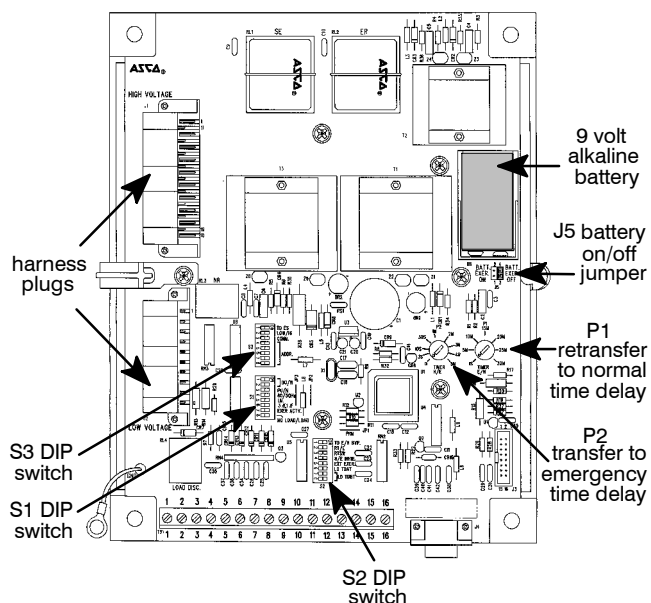
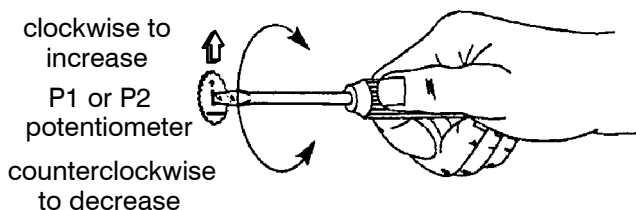
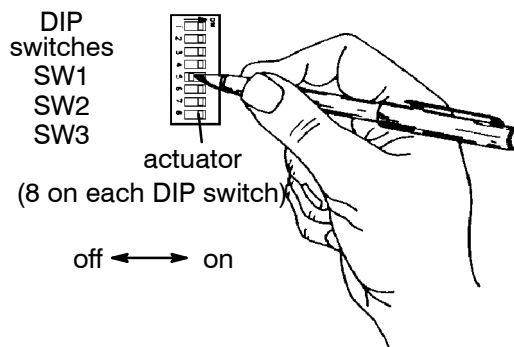

Figure 4-2. Location of potentiometers.
Figure 4-3. Changing time delay potentiometers.
Figure 4-4. Setting DIP switch actuators.
4. Locate the appropriate adjustment potentiometer or DIP switch for the setting that you want to change. Refer to Table 4-1 and Table 4-2 on page 4-1 and Figure 4-2, Figure 4-3, Figure 4-4 on page 4-2.
5. Use a small screwdriver to turn the potentiometer clockwise to increase the time delay or counterclockwise to decrease it. See Figure 4-3.
6. Use a ball-point pen (or similar pointed tool) to slide the switch actuators left or right so they match the illustration next to the setting (left = off, right = on). Recheck the setting. See Figure 4-4.
The engine exerciser included in ASCO Series 300 Automatic Transfer Switches provides a once a week 20-minute exercise period. It occurs immediately when the **Set Engine Exerciser** push button is pressed (and held for at least 5 seconds), and then at the same time weekly thereafter. A 9 volt alkaline battery (*Duracell* MN1604, *Everready* 522, or *Panasonic* 6AM6) is furnished and installed in the controller to maintain the setting. The battery jumper block must be shifted to the ON position. See Figure 4-2 on page 4-2.